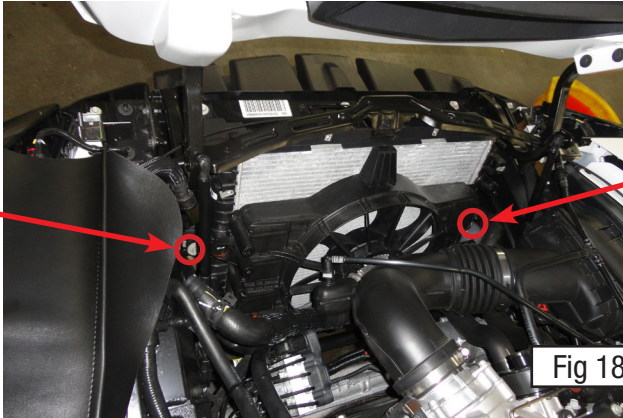

Fig 18.
20. Remove the two 10mm bolts holding the fan shroud to the radiator (Fig. 18).